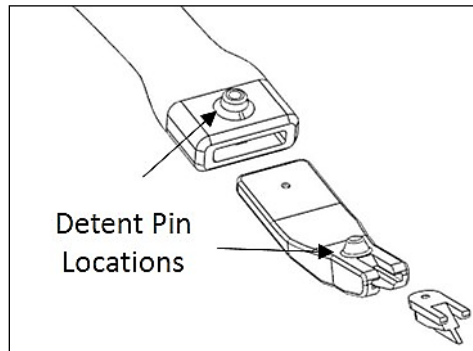

Figure 6. Adapter and TGB Installation
- 3.1.6. Attach the gap blade adapter to the handle by inserting the adapter into the slot on the handle and insert the TGB into the slot on the adapter. When installed correctly, an audible “CLICK” should be heard when the gap blade adapter engages the handle detent pin and when the TGB engages the adapter detent pin. See **Figure 6**.